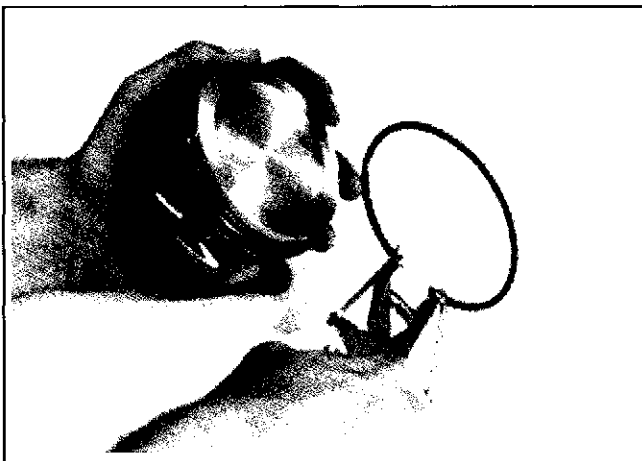
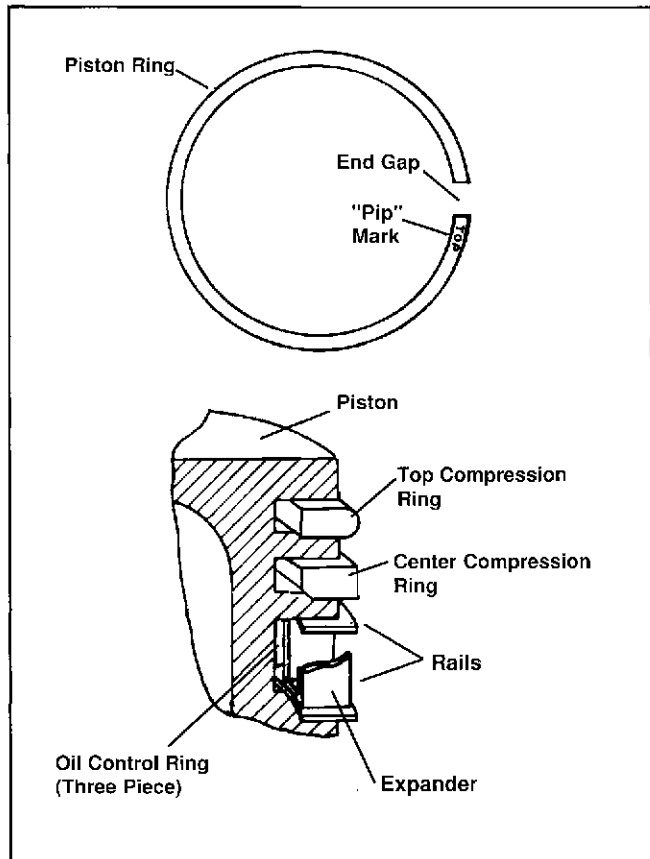

Figure 10-11. Installing Piston Rings with Expander.
Figure 10-12. Piston Ring Installation.
**NOTE:** Rings must be installed correctly. Ring installation instructions are usually included with new ring sets. Follow instructions carefully. Use a piston ring expander to install rings (see Figure 10-11). Install the bottom (oil control) ring first and the top compression ring last. Refer to Figure 10-12.